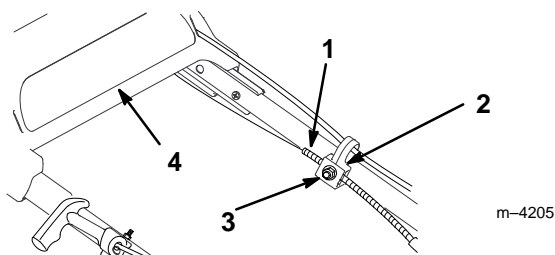

Figure 18
2. Loosen the cable support nut (Fig. 18).
4. With the upper handle pushed back as far as possible and while holding the drive bracket down, pull the cable jacket down (toward the mower) until all slack is removed from the cable (Fig. 18).
5. Tighten the nut on the cable support (Fig. 18).